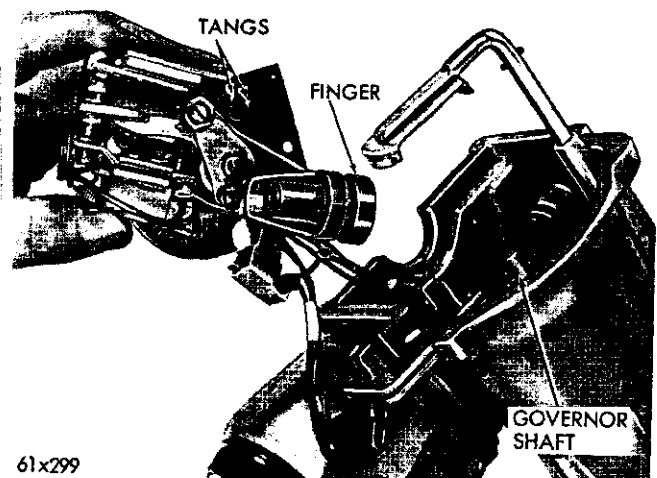

Fig. 52—Installing the Complete Pintle Assembly
(3) Install the pintle shaft in the collar end of the bushing in the magnet assembly.
(4) Install the contact arm on the end of the pintle shaft and attach with the snap ring.
(5) Install the locking arm on the pintle shaft.
(6) Install the finger assembly on the ball joint of the contact arm.
(7) Install the complete assembly in the housing (Fig. 52). Position the finger assembly over the governor shaft, align the bracket tangs on the bottom of the magnet assembly with the grooves in the drive screw nut. Press down on the complete assembly until it seats itself in the housing.
(8) Install the throttle over-ride switch (Fig.